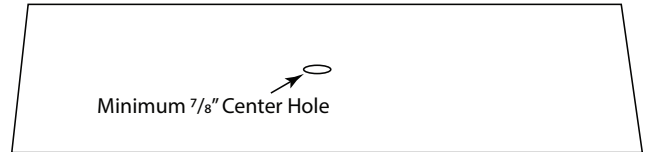
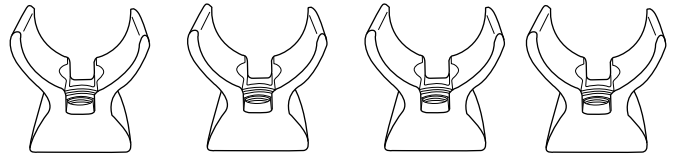
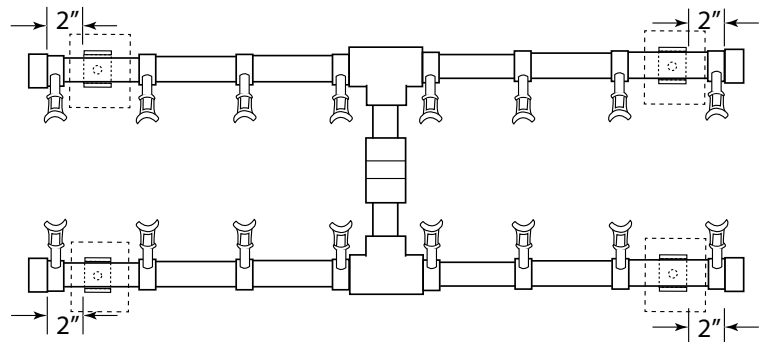

Fig. 4 Shows burner pan center hole.
Fig. 6 Brass burner supports.
Fig. 7 Locating brass burner supports.
All Pro H-burners come ready to install and have a  $\frac{3}{8}$ " male center nipple. The burner must be installed as shown in Fig. 4 with center nipple facing downward. Ensure to seal each NPT fitting with thread tape or pipe compound.
The burner pan requires a center hole a minimum of  $\frac{7}{8}$  -inch in diameter (Fig. 4). The burner also is supplied with (3) brass burner supports required for assembly (Fig. 6).
**Step 2:** Using the brass burner supports (supplied) in Fig. 6, install one support on every other leg, 2-inches from the end of each leg. See Fig. 7. **Note:** The Pro Spur will fit snug into each burner support.